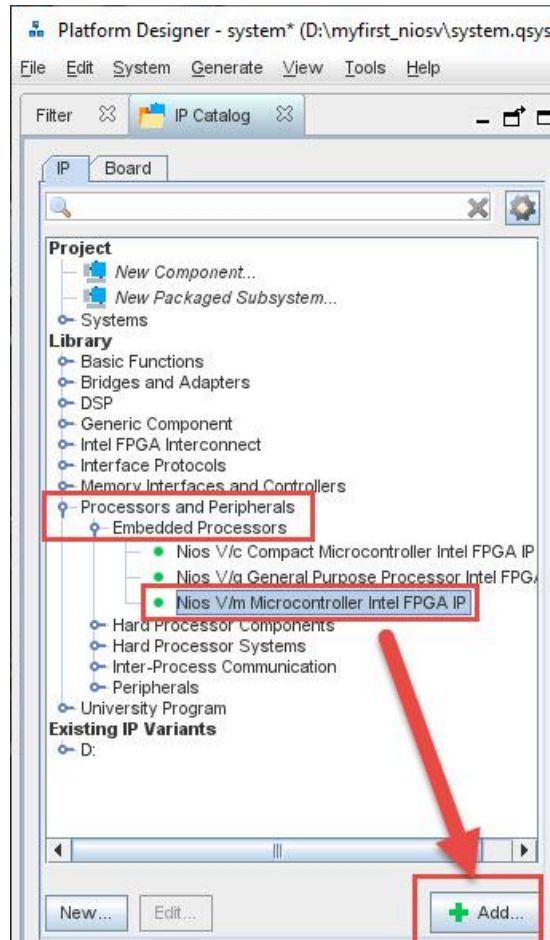

Figure 2-11 Add Nios V/m Processor
2. Then we will add a **Nios V microcontroller** into the system. Choose **Library > Processors and Peripherals > Embedded Processors > Nios V/m Microcontroller** to open wizard of adding cpu component. See Figure 2-11.